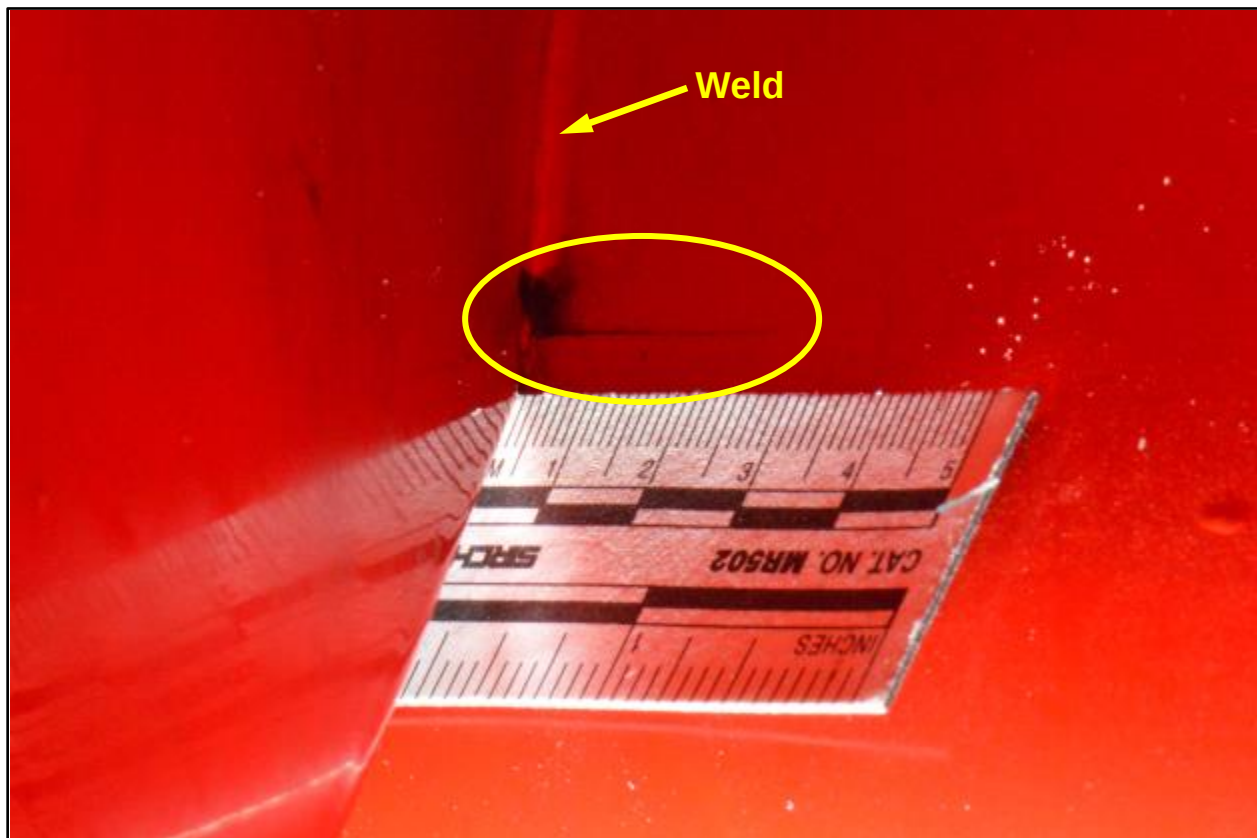

Figure 4. Appearance of the weld (yellow arrow) and the crack perpendicular to the weld (yellow circle).
- 7** Observe if a straight line shadow is visible perpendicular to the weld in the area circled in Figure 3. Inspect both sides of the weld. Shadow under these lighting conditions could be an indication that a crack is present in the head material. Figure 4 shows the appearance of the shadow perpendicular to the weld. However, the crack, if present, could also have a different angle to the weld.